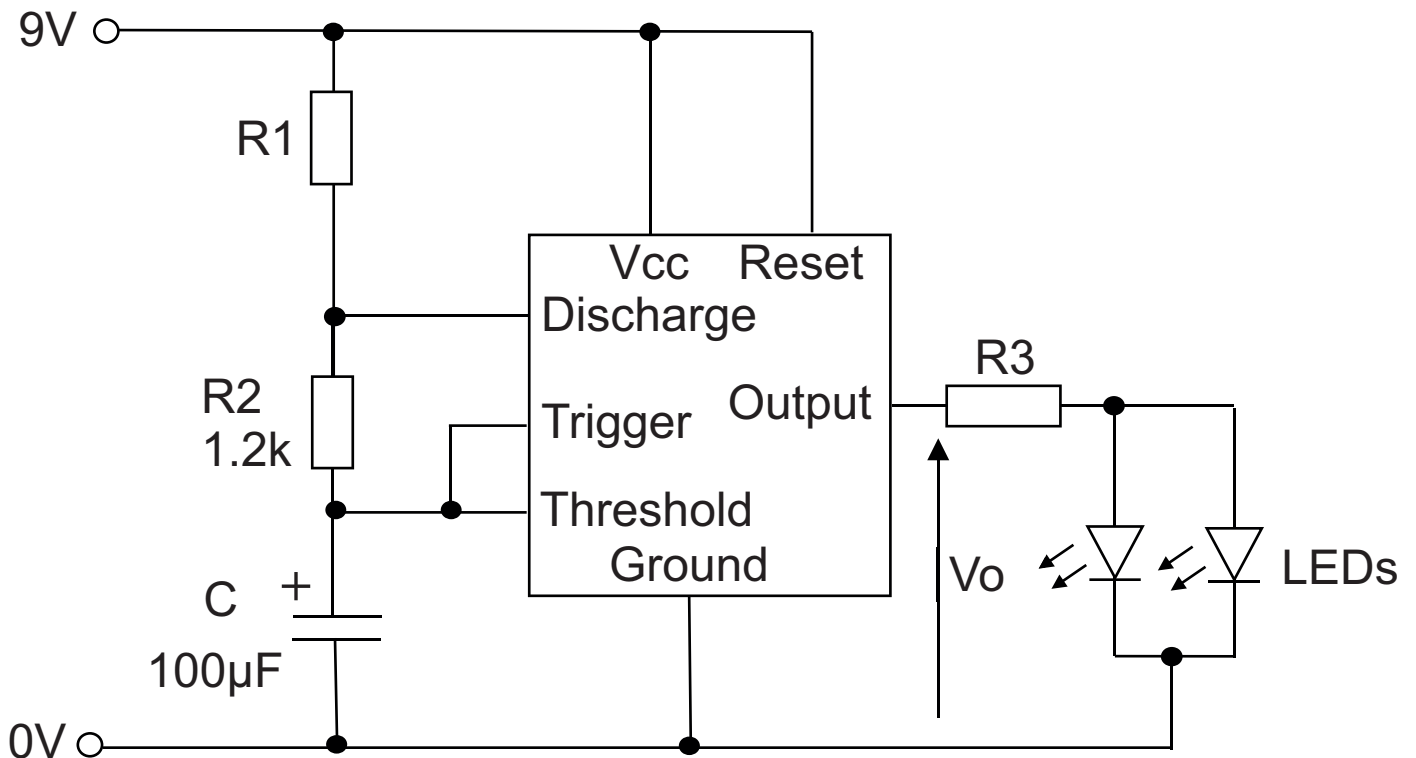

Fig. 2
(b) The 555 timer based circuit shown in **Fig. 2** also utilises an electrolytic capacitor.
- (i) Calculate the required value for the resistor R3 in **Fig. 2** to allow the LEDs to function safely with a forward voltage of 1.6V and a current of 12mA for each. (Assume the output of the 555 timer is 9 volts when on.) [3 marks]
(ii) If the LEDs in **Fig. 2** are required to flash at a frequency of 4 hertz, calculate the required value for the resistor R1. Show how you calculated this value. [4 marks]
(iii) The output from the circuit shown in **Fig. 2** has a mark space ratio of 2:1. Sketch the output waveform on the labelled axes below. Label the **mark** and the **time period** on your waveform. [3 marks]
(iv) The circuit shown in **Fig. 2** could be replaced with a PIC based circuit. State **one** advantage and **one** disadvantage of using a hardwired system such as a 555 timer over a PIC based system to control a flashing LED. [2 marks]